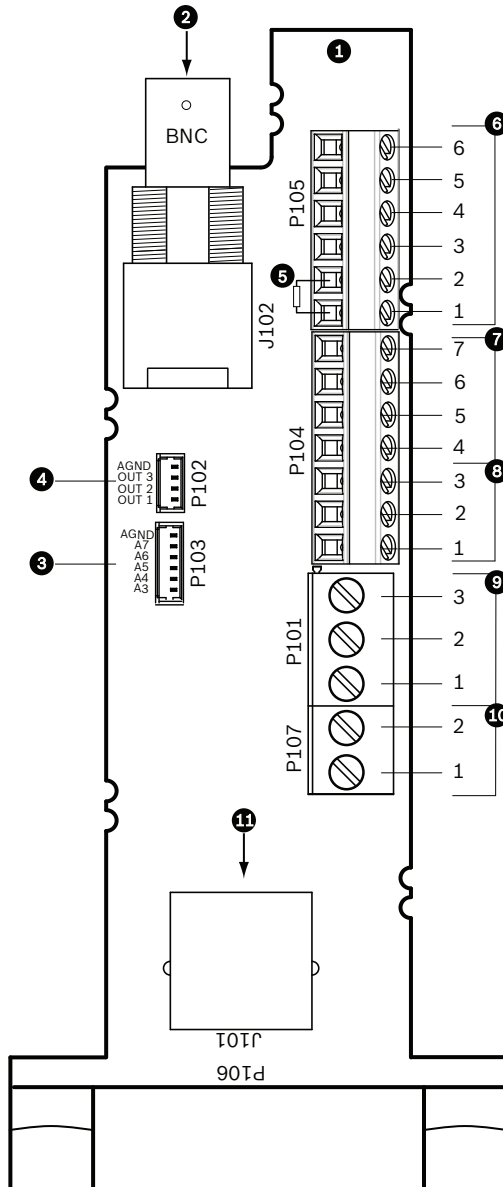

Figure 3.10 Pipe Interface Board Connections
2. Attach the control data in/out wires to their respective terminals on the P105 connector on the Pipe Interface Board. See *Figure 3.10, Page 46*, for an illustration of these connections.